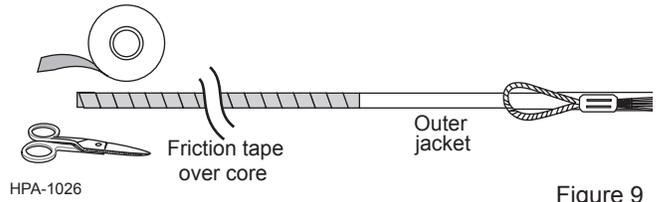

Figure 9
**4.8** Beginning at the end of the outer jacket, wrap one layer of friction tape over the entire length of the exposed cable core. The friction tape should follow the direction of the sub-units or buffered fibers twists (Figure 9).